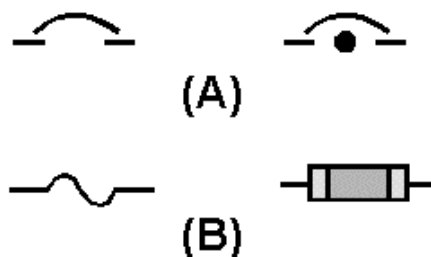

Figure 2-3.—Schematic symbols.
- Q8. Label the schematic symbols shown in figure 2-3 below.